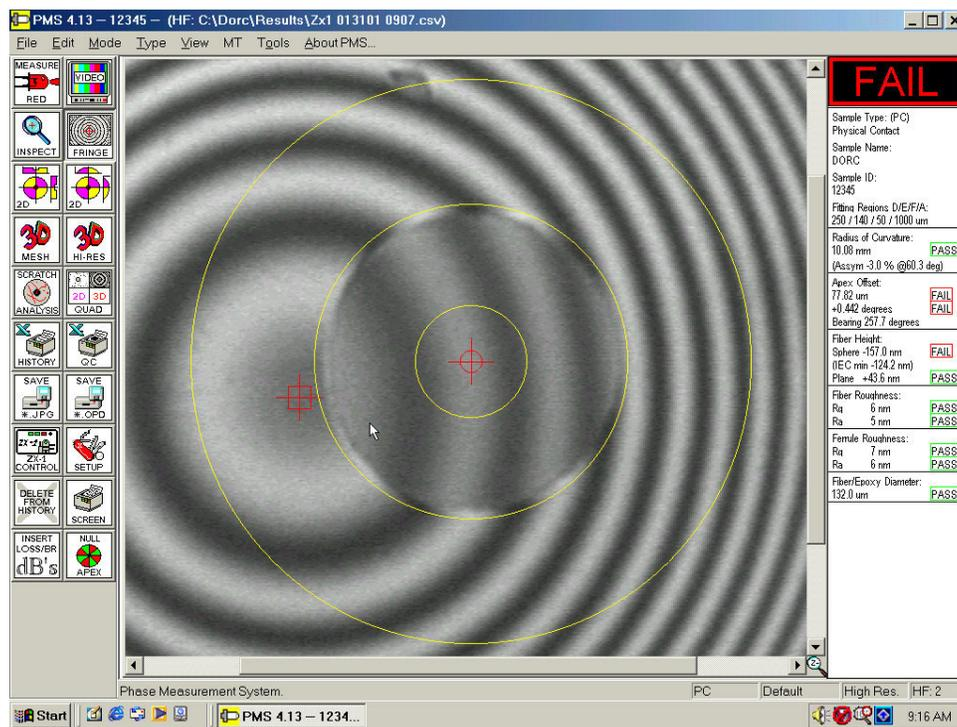

Figure 15. Fringe Screen for A PC Connector.
- Select Interference mode by pressing the **Reference Out** or **Inspect Mode** button on the ZX-1 front panel until it is **not** lit. Make small adjustments of the focus (Z) micrometer to obtain fringes and maximize the fringe contrast.
- Activate the Measure LED icon using the left mouse key or press the right mouse key from anywhere on the active window. The ZX-1 will then automatically acquire phase-shifted data of the sample and display all results that are defined in the Setup menu under the PC tab. Upon completion of the measurement, the screen will display the results, along with the image selected in the Auto tab that can be found in the Setup menu. The default is the Fringe Screen, as shown in figure 15.